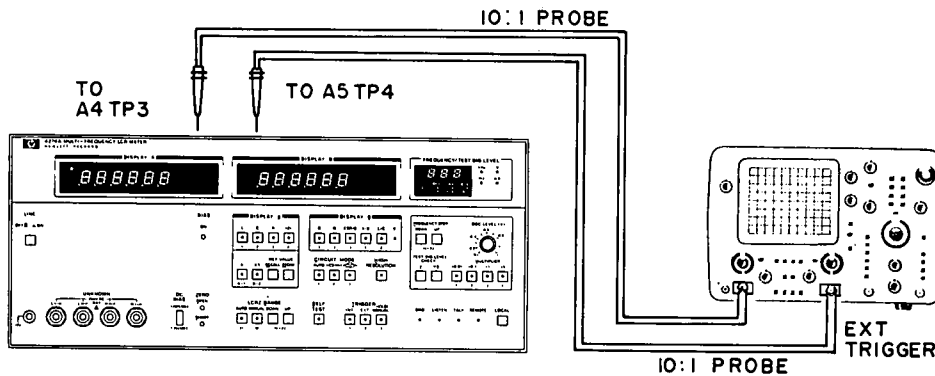

Figure 5-2. A4 Process Amplifier DC Offset Adjustment.
- d. Connect a 10:1 divider probe between 4274A A4TP3 and chassis. See Figure 5-2.
- e. Connect a 10:1 divider probe between A5TP4 and chassis for EXT TRIGGER input of 1740A. See Figure 5-2.